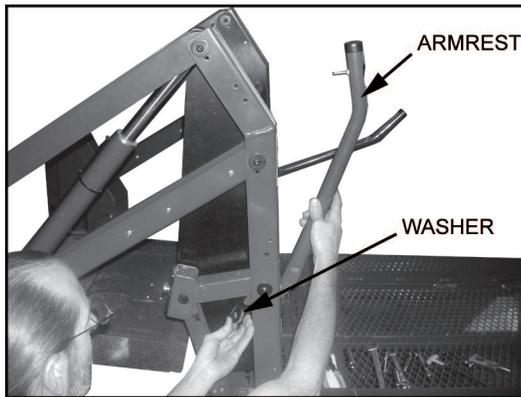

FIGURE 3-25
4. Refer to **Figure 3-25**. Lift left hand armrest to remove rubber washer.